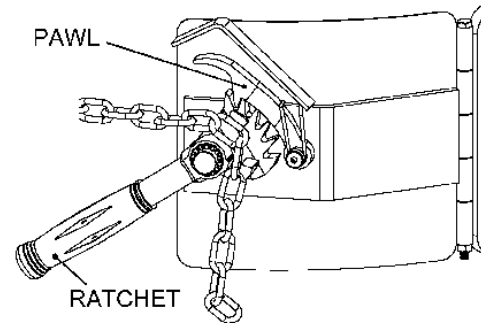

Figure 3.2
- Drape the chain across the front of the drum and engage a link into the slot in the ratchet (Figure 3.2). Turn the ratchet clockwise to tighten chain. If ratchet turns until the pawl is beyond the last ratchet tooth, turn the ratchet back and slide the next link into the ratchet slot and try tightening again. The chain must be held tightly against the drum with the pawl engaged securely in the ratchet teeth.